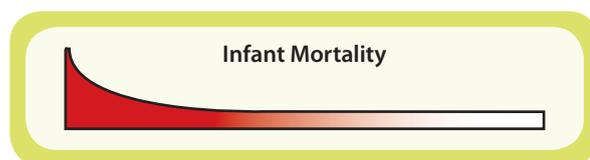

Figure 1 - Failure Pattern from Nowlan and Heap Study
3. Can you identify components with a common thread due to a specific failure pattern, such as the one shown in Figure 1?